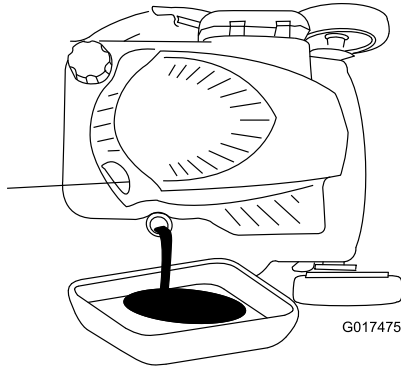

Figure 38
3. Tip the machine onto its side, with the dipstick down, to drain the used oil out through the oil-fill tube (Figure 38).